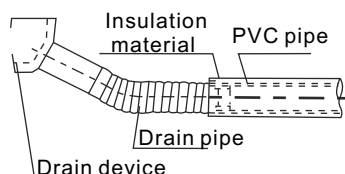

Figure 4.1
2) Connect the Drain pipe in accordance with Figure 4.1.